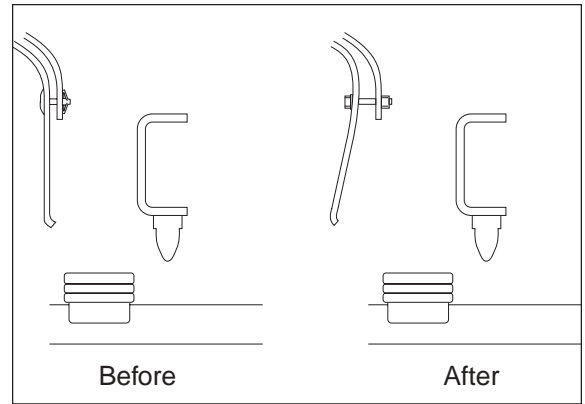

Figure 17
1. If this installation was on a late model 4WD Dodge truck, then it is now necessary to reinstall the inner fenderwell liner using the original fasteners and provided spacers to allow for air spring clearance (Figure 17).